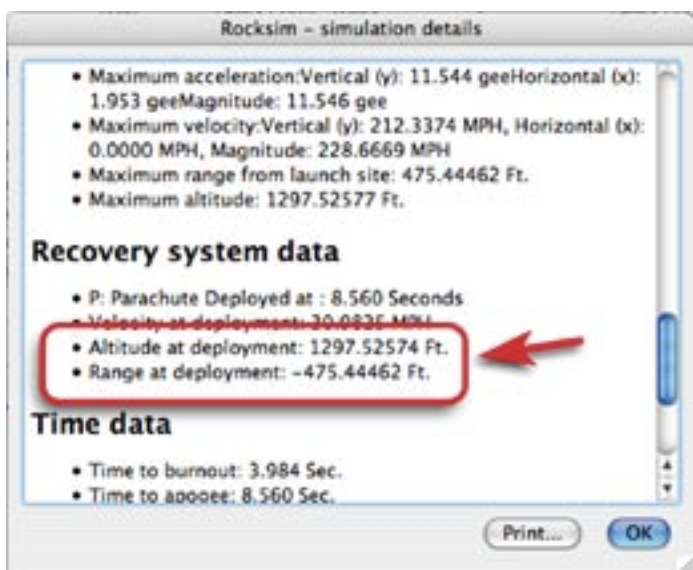

Figure 3: Find the deployment position from the simulation details report.
Step 4B: We can actually simplify the procedure of Step 4a. We don't have to go to the flight profile screen every time we run a simulation. We can get it from the detailed flight report. Just double-click on the simulation number, and the detailed flight report will come up. Just scroll down to the section called "Recovery system data" to find the altitude and range at deployment as shown in Figure 3.